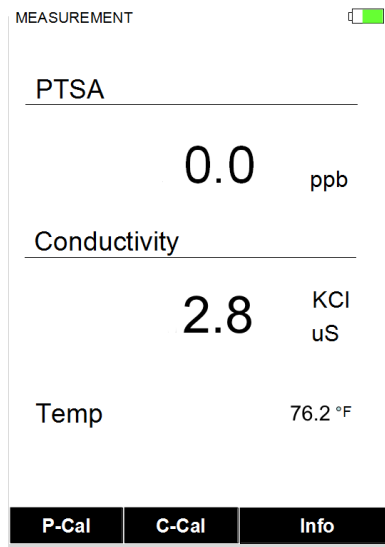

Figure 4
3) A screen similar to Figure 4 appears. The unit is actively reading and displaying both PTSA and Conductivity. The values will be very low if DI water is used; conductivity value is not critical but PTSA value should be near zero. A low non-zero value (e.g. 0.2 or 0.4, etc.) is not problematic.